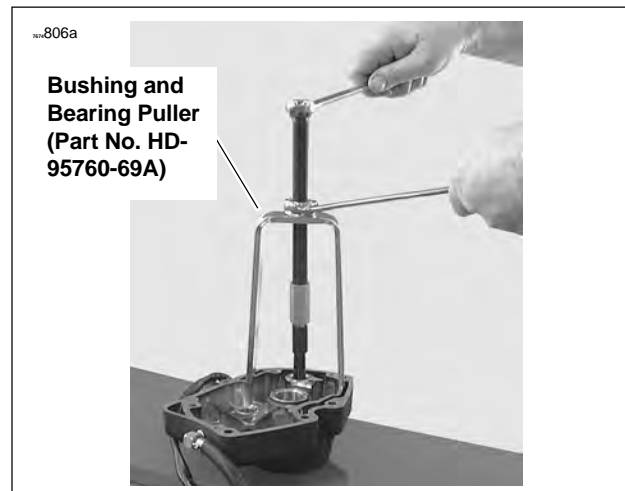

Figure 3-102. Removing Bushing
- See Figure 3-102. Use a BUSHING AND BEARING PULLER (Part No. HD-95760-69A) to remove bushings from gearcase cover and crankcase.